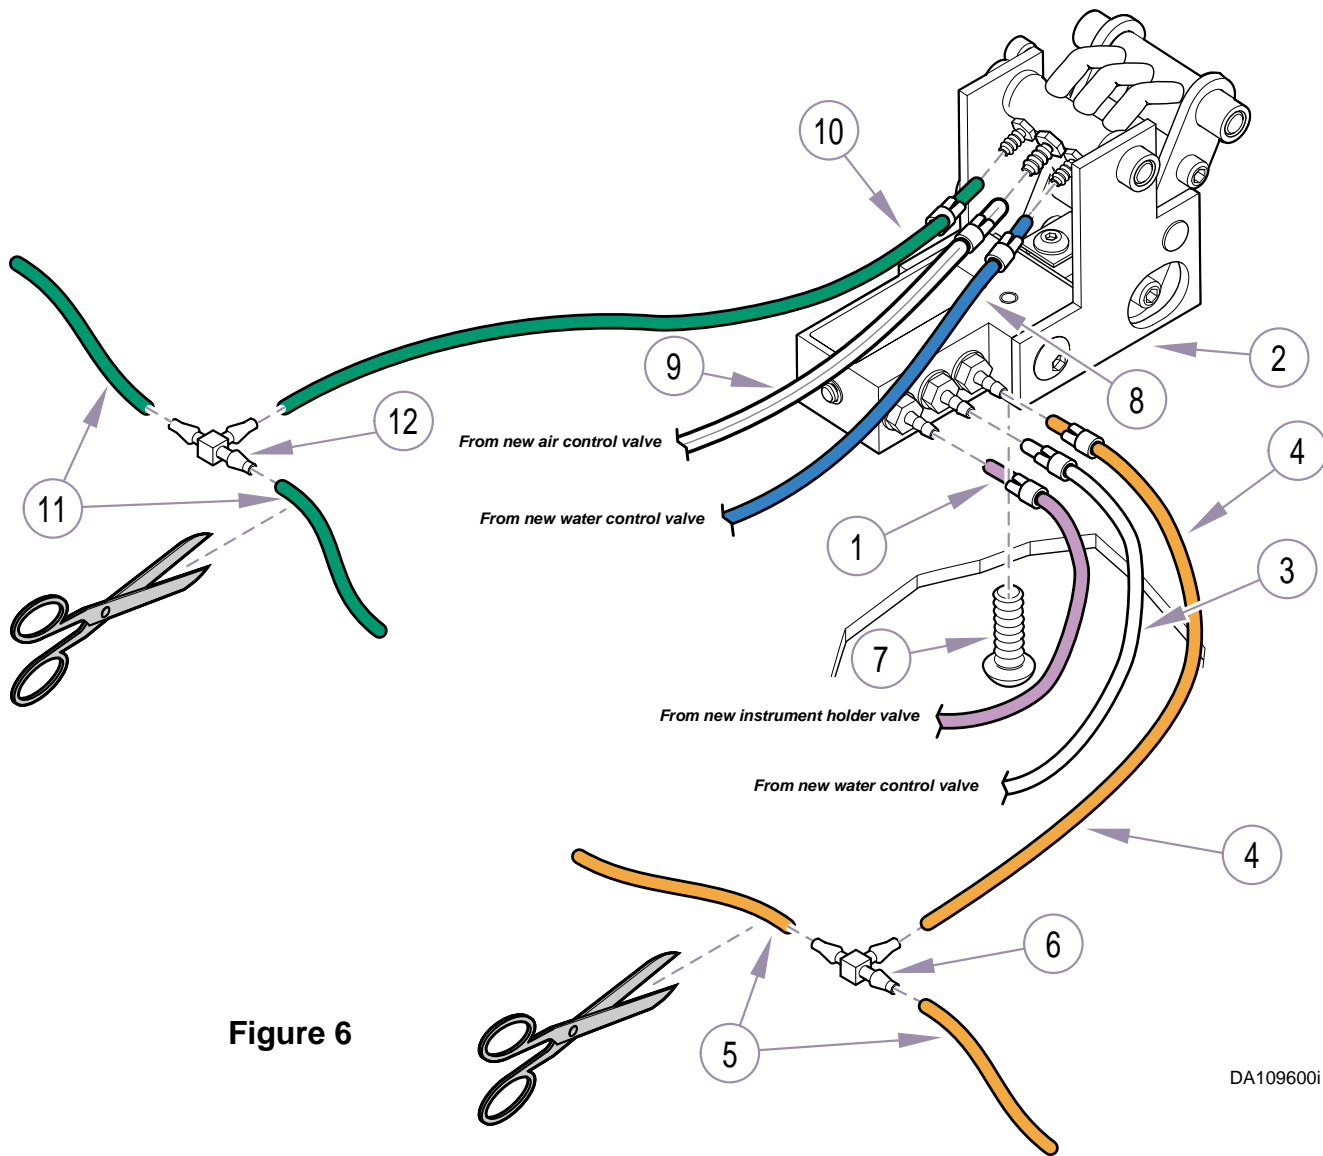

Figure 6
- (1) Connect 1/8" purple tubing (1, Figure 6) **[from new instrument holder valve]** to kink valve (2) as shown.
- (2) Connect 1/8" white tubing (3) **[from new water control valve]** to kink valve (2) as shown.
- (3) Connect 1/8" orange tubing (4) **[shipped w/kit]** to kink valve (2) as shown.
- (4) Cut 1/8" orange tubing (5) **[connecting existing kink valves]** and insert tee fitting (6); then connect 1/8" orange tubing (4) from kink valve (2).
- (5) Position kink valve (2) and secure with screw (7).
- (6) Connect 1/8" blue tubing (8) **[from new water control valve]** to kink valve (2) as shown.
- (7) Connect 1/4" clear tubing (9) **[from new air control valve]** to kink valve (2) as shown.
- (8) Connect 1/8" green tubing (10) **[shipped w/kit]** to kink valve (2) as shown.
- (9) Cut 1/8" green tubing (11) **[connecting existing kink valves]** and insert tee fitting (12); then connect 1/8" green tubing (10) from kink valve (2).